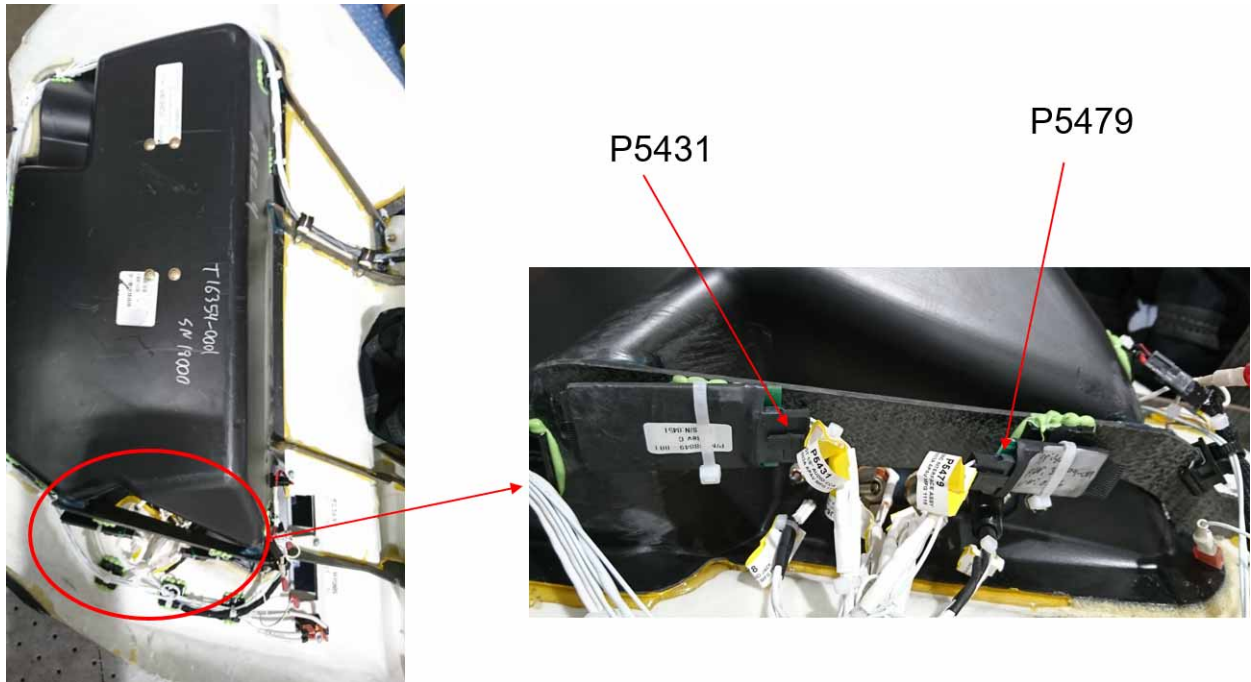

Figure 01
- (1) Locate pilot connectors behind pilot side panel, on back of storage pocket. (See Figure 01)
- (2) Disconnect connectors from circuit card assemblies.
- (3) Remove circuit card assemblies from aircraft.
- (4) Cap and stow connectors.
- (5) Label each connector "DO NOT CONNECT SYSTEM DISABLED PER SBA5X-23-03".